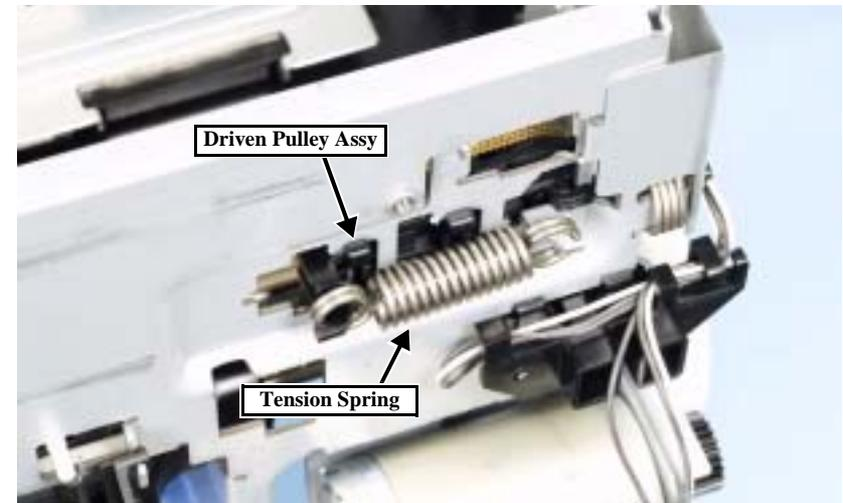

Figure 4-63. Removing the Tension Spring
4. At the rear of the printer, remove the tension spring of the Driven Pulley Assy. (Fig. 4-63)